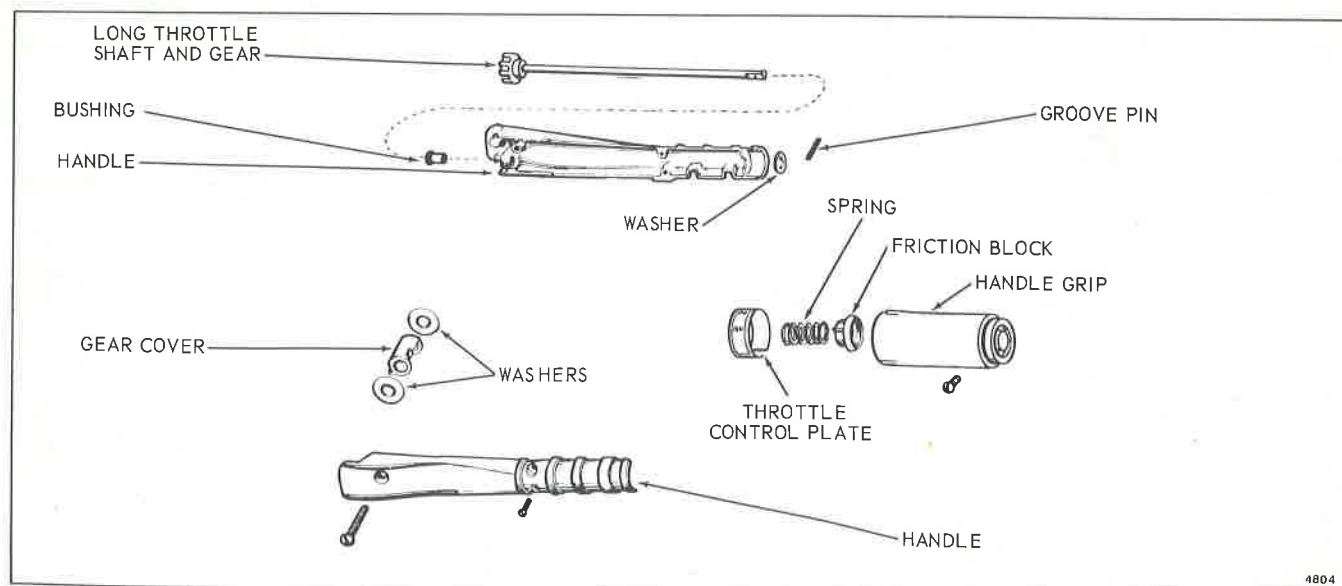

Figure 6-11. Steering Handle Removal
a. Remove handle grip screw, handle grip, friction block, spring, and throttle control plate. See Figure 6-11.